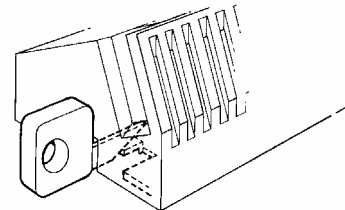

Figure 1
1. To release the reader assembly from the reader base plate, insert the latch release tool into the reader assembly release slot, *making sure the tip of the tool rides on top of the latch*. When fully inserted, the tip of the tool will depress the latch sufficiently to clear the release stop. FIG 1